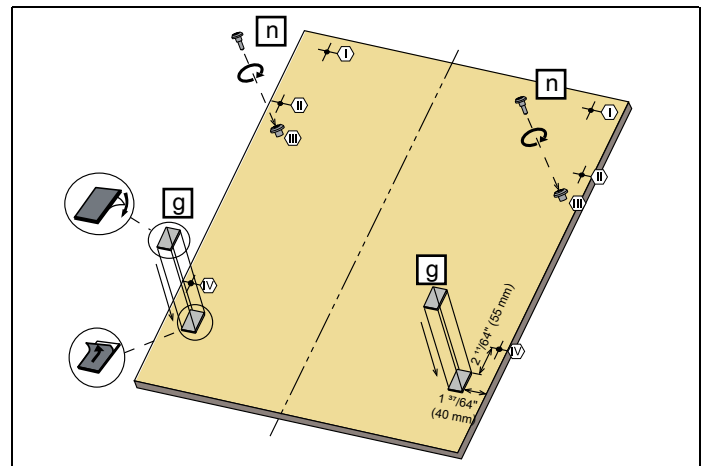

Fig. 25
3) As shown in Fig. 25, Screws  $\text{Ø}5/32"$  x  $27/32"$  (4mm x 21.5mm) are installed in positions III.
4) As shown in Fig. 25, Wooden Door Fixing Strips are installed in the positions shown in the figure.